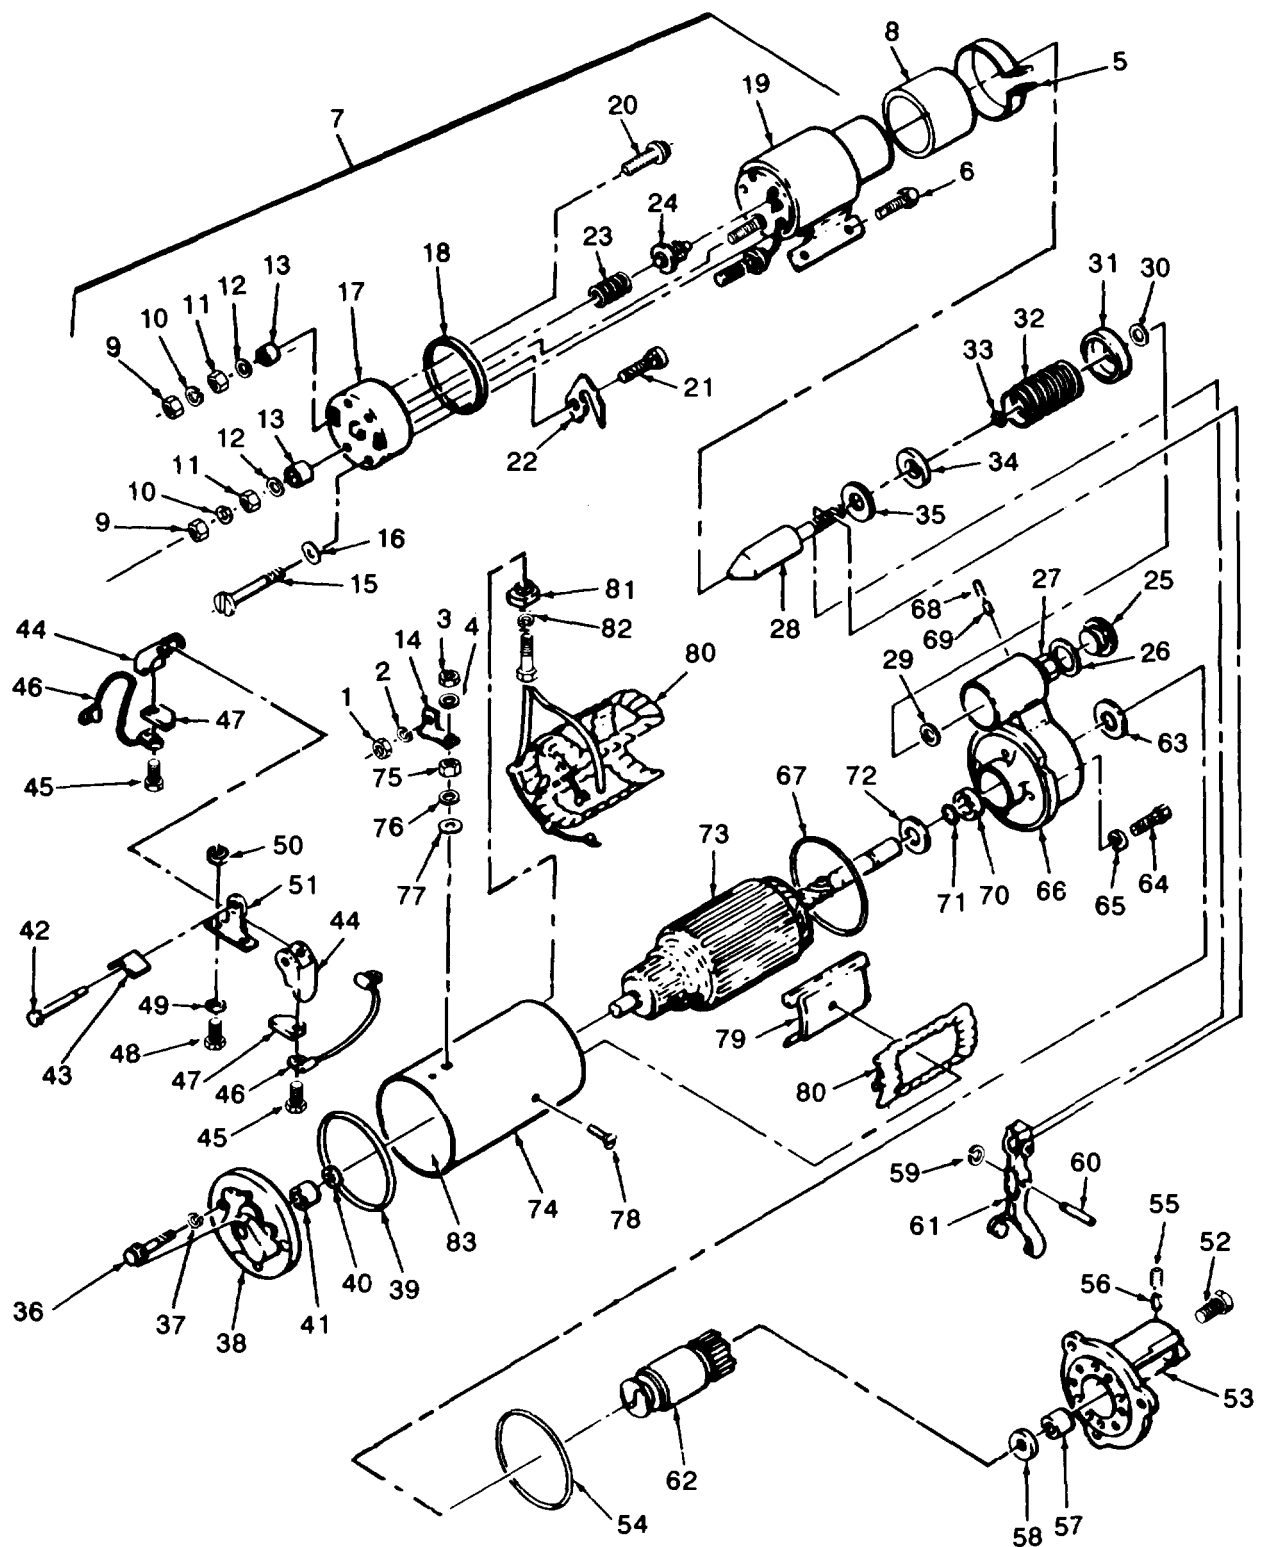

Figure 3-4. Starter Assembly, Exploded View (Effective with Serial No. RZ60001) (Sheet 1 of 2)
- (1) Remove nut (1, figure 3-4), lockwasher (2), nut (3) and lockwasher (4).
- (2) Loosen clamp (5) and remove screws (6) to remove solenoid assembly (7) from starter assembly.
- (3) Remove boot (8) and clamp (5).